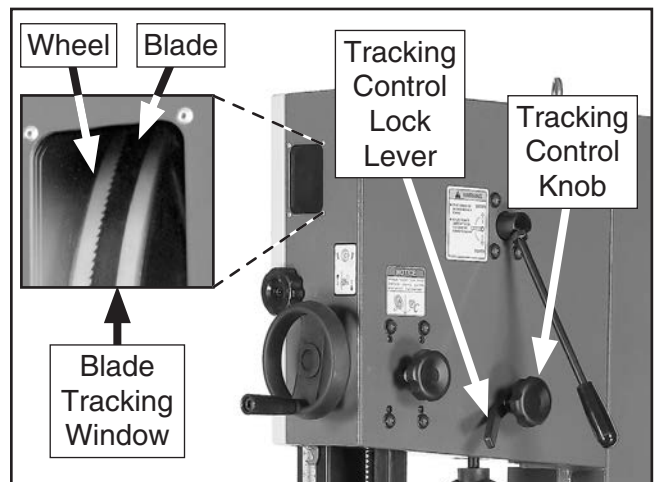

Figure 39. Blade tracking controls.
6. Loosen the lock lever on the back of the bandsaw (see **Figure 39**) so that the blade tracking knob can rotate.
8. Adjust tracking control knob (see **Figure 39**) in small amounts and continue to rotate upper wheel by hand at the same time until blade consistently rides in center of bandsaw tire.